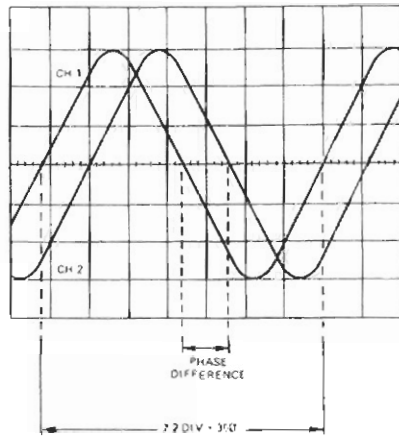

Figure 2-18. Dual-trace method of phase measurement
2. Set the trigger SOURCE switch (28) to the channel with the least noise and most stable trace. Temporarily move the other channel's trace off the screen by means of its Vertical Position control.
3. Center the stable (trigger source) trace with its Vertical Position control, and adjust its amplitude to exactly 6 vertical division by means of its VOLTS/DIV switch (11) and VARIABLE control (12).
4. Use the LEVEL control (31) to ensure the trace crosses the central horizontal line at or near the beginning of the sweep. (See Figure 2-18.)
5. Use the A TIME/DIV switch (20), the Time VARIABLE control (22), and the Horizontal Position control (24) to display one cycle of trace over 7.2 divisions. When this is done, each major horizontal division represents 50° , and each minor division represents 10° .
7. The horizontal distance between corresponding points on the waveform is the phase difference. For example, in the Figure 2-18 illustration the phase difference is 6 minor divisions, or 60° . Use the Horizontal Position control (24) to align one of the mid-cycle zero crossings with a graticule calibration to facilitate this measurement.
8. If the phase difference is less than 50° (one major division), pull the PULL X10 MAG switch (24) and use the Horizontal Position control (24) (if needed) to position the measurement area back on screen. With 10X magnification, each major horizontal division is 5° , and each minor division is 1° .